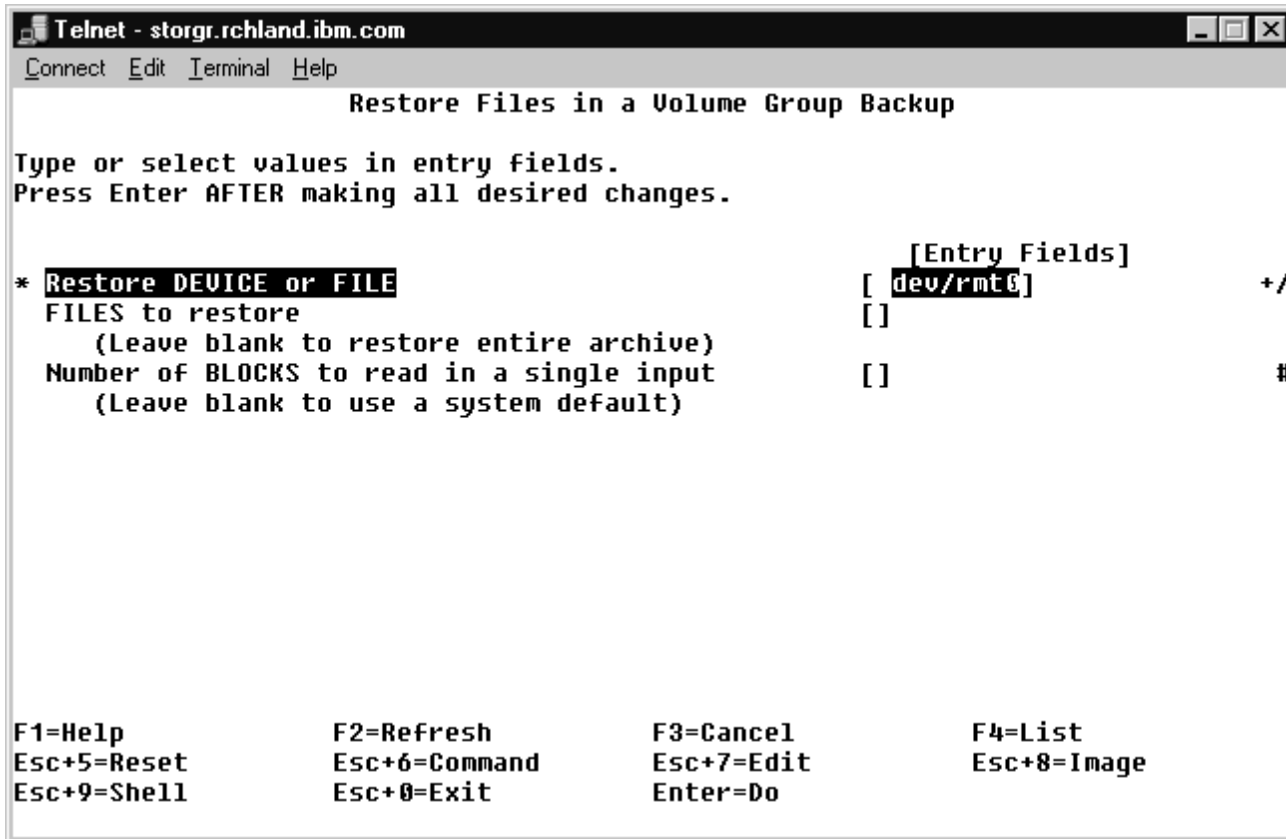

Figure 82. Restore Files in a Volume Group SMIT Screen
5. Fill in the Restore Files in a Volume Group Backup SMIT screen shown in Figure 82 on page 128.